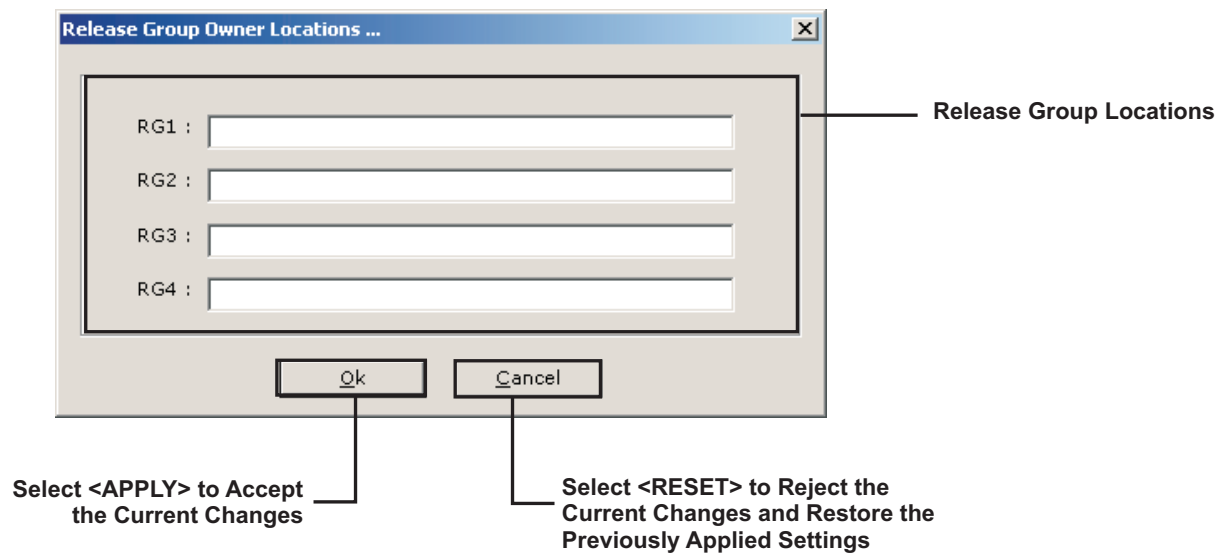

Figure 3-5. Release Group Owner Location Screen
3. If Release Groups are used, select the **<Edit RG Owner Locations>**. Figure 3-5 displays. Enter the location of each release group and select **<OK>**.